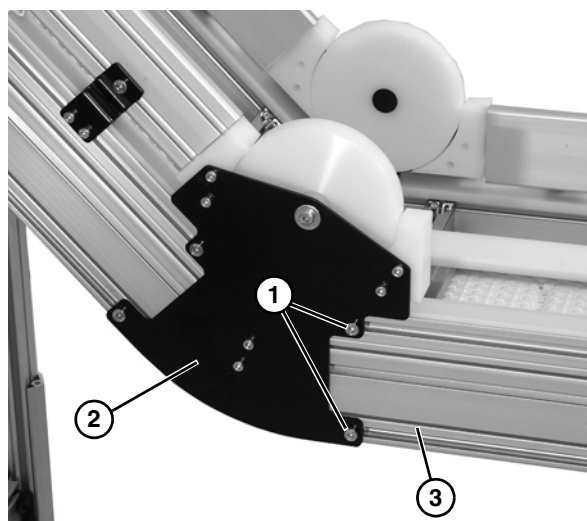

Figure 9
2. Attach lower knuckle to frame by loosening two socket head capscrews (**Figure 9, item 1**) on each side of lower knuckle assembly (**Figure 9, item 2**), and sliding T-Nuts into straight frame section (**Figure 9, item 3**).